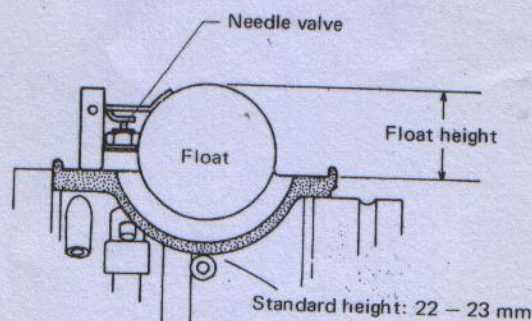

Fig. 7-2-1. Float level
- D. Measure the distance between the float chamber fitted surface and bottom of the float as shown in Fig. 7-2-1.